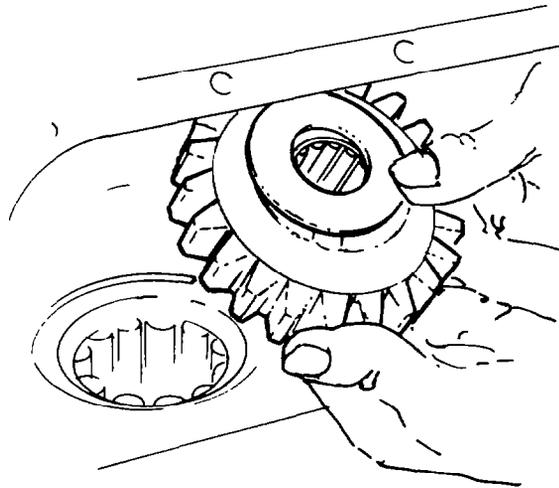

Fig. 191 — Installing Reverse Idler Gear Assembly
- d. Assemble the bearings into the idler gears, then position the idler gears with thrust washers at each end in the case (rounded teeth of idler gears towards the front of transmission) (see fig. 191). Using a soft hammer tap the shaft into the case through the thrust washers and gears.